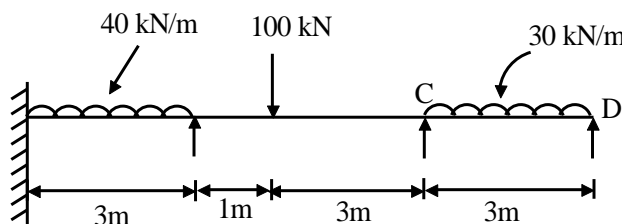

Fig. 3
3. Analyse the continuous beam as shown in fig. 3 by Moment Distribution Method and draw B.M.D. EI same for all members 16